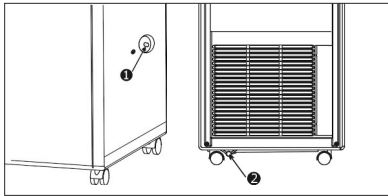

Fig. 10
1. When the unit is in cooling mode, it is not necessary to install the condensate drainage pipe since condensate evaporates automatically. Make sure that when the unit is operating, the rubber plug of the drainage hose is securely fixed (see Fig. 10).
2. In heating mode, remove the rubber plug (2) of the drainage hose (Fig. 10), install the respective drainage hose to improve heating efficiency.
3. In dehumidification mode, remove the rubber plug (2) of the drainage hose, install the respective drainage hose.